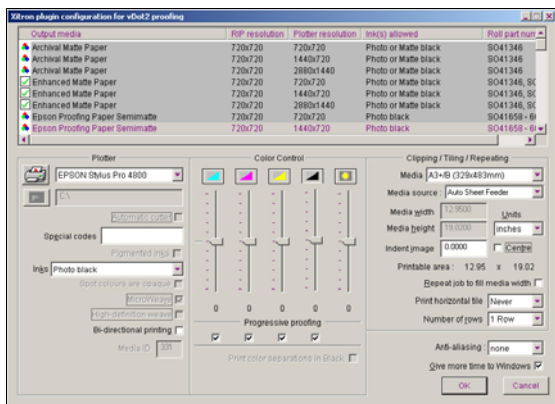

Figure 4.7. vDot-II Configuration dialog box
**Note:** many of the variables in this window can be changed **after** the job is RIPped. To do so, highlight the job in the Active or Held queues in the Output Controller, click *Info* then *Configure Device*. You will see the same display as figure 4.7, but some functions will no longer be available (such as Progressive Proofs) because they were processed at the time the job was RIPped. However, many other functions such as Repeat to fill media or Horizontal Tiling, can be selected at this stage, either before the job is printed or before re-printing it, which is done by dragging it back to the Active Queue.